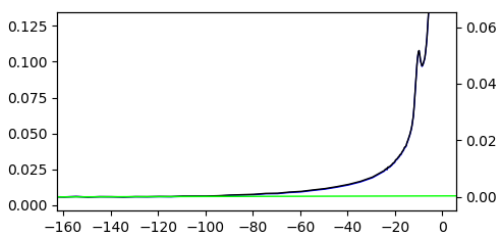

Figure 2-6: The fit to the pre-edge background is shown here.
- 7) The first thing we will do is adjust the pre-edge and post-edge background removal from the XAS data. The goal is to get a flat post-edge with no slope and a reasonably flat pre-edge background. In the far right panel, adjust the pre-edge "Begin" value to be as low as possible (-164.79); this will make the pre-edge background begin fitting at the very beginning of the spectrum which is what we want here. Next, adjust the pre-edge "End" value to around -110 or so, which will make the pre-edge background fit the region from -164.79 eV to -110 eV below the edge (a zoom in shown in Figure 2-6). You'll notice that the green line representing the background is linear and nearly flat, which is a common observation for fluorescence data. Sometimes a sloping or even quadratic fit is needed, particularly for lower concentration samples, but that's not the case here.